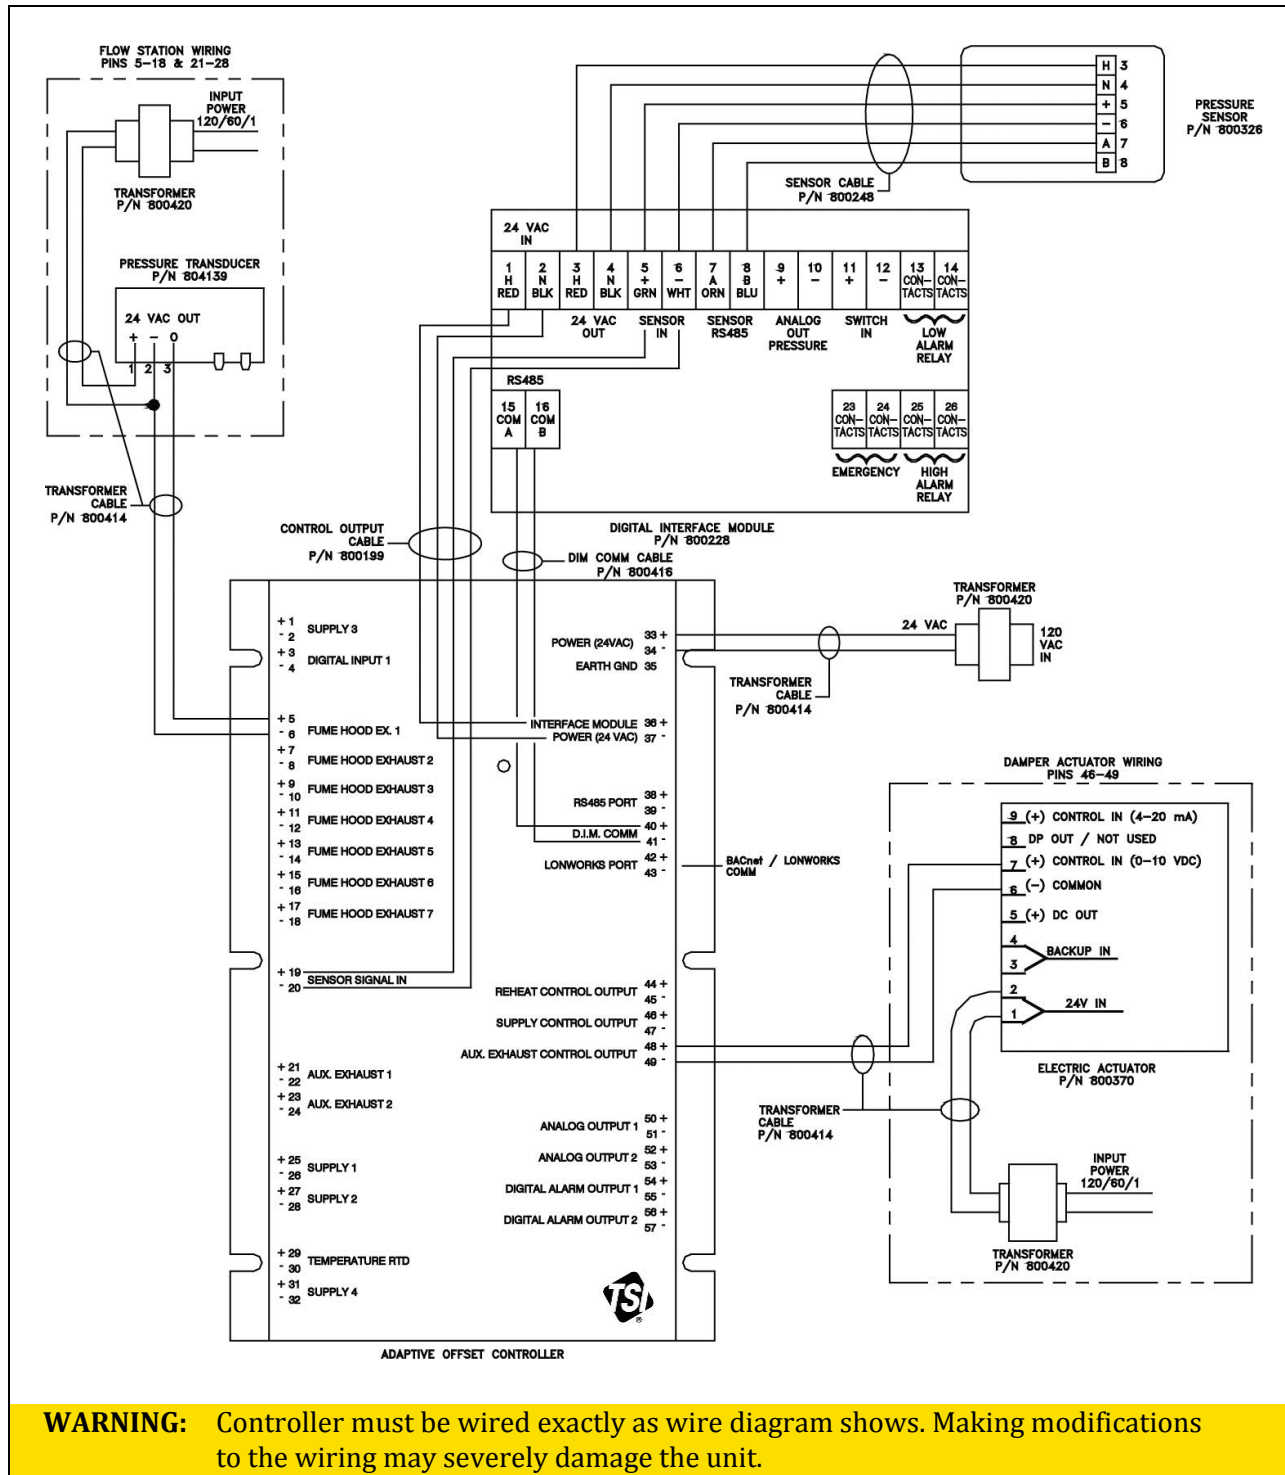
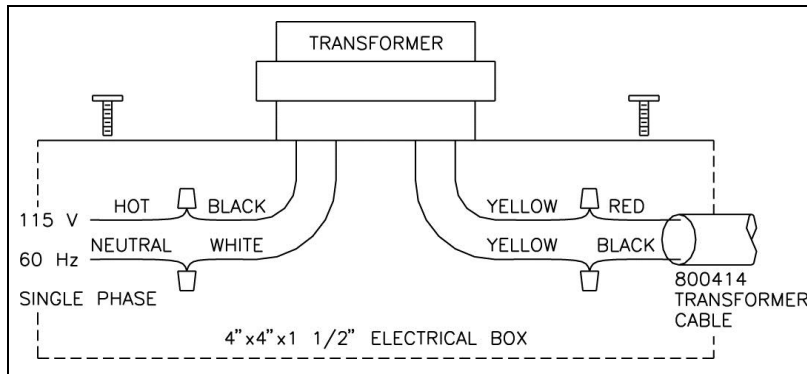

Figure 14: Diagram – Electric Actuator Version
Figure 15: Transformer Installation
5. Refer to the wiring diagrams for proper wiring (Figure 14). The cables are terminated both at the Digital Interface Module, and at the Adaptive Offset Controller.
6. Refer to wiring diagrams for proper wiring (Figure 14). All components terminate in AOC case.
3. Refer to Figure 14 wiring diagram for pressure sensor, DIM, TSI Damper/Actuator, and TSI flow station wiring. Refer to Figure 15 wiring diagram for transformer wiring.
8. Refer to the wiring diagrams for proper wiring (Figure 14). The sensor cable is terminated at the pressure sensor, and at the Digital Interface Module.
- Refer to the wiring diagrams for proper wiring (Figure 14). The cable is terminated at the pressure transducer and at the Adaptive Offset Controller.
5. Refer to the wiring diagrams for proper wiring (Figure 14). The cable is terminated at the damper / actuator and at the Adaptive Offset Controller.
3. Connect 115 VAC line voltage HOT wire to BLACK wire on transformer and NEUTRAL wire to WHITE wire on transformer (Figure 15).
6. Run transformer cable from the transformer electrical box to the device. Have at least 8 inches of extra cable at the device before trimming cable to length. Wire devices per Figure 14.